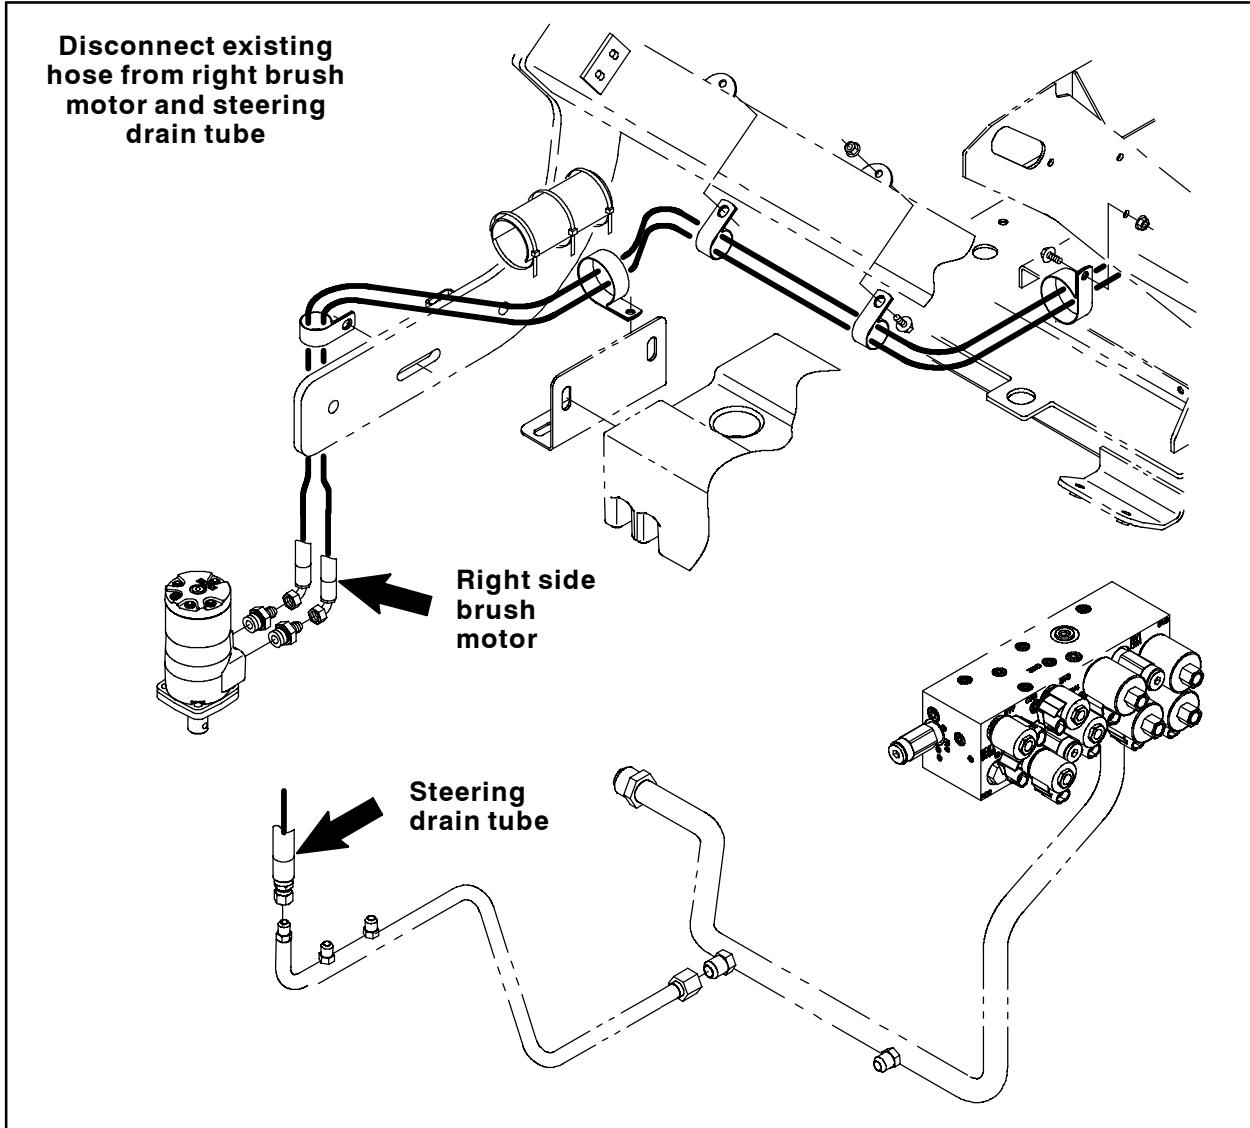

FIG. 6
16. Cut any cable ties securing the 134" hose connected to the right side brush to the machine. Refer to Fig. 6.
17. Disconnect the 134" hose from the right side brush motor and the steering drain tube. Discard the removed hose. Refer to Fig. 6.